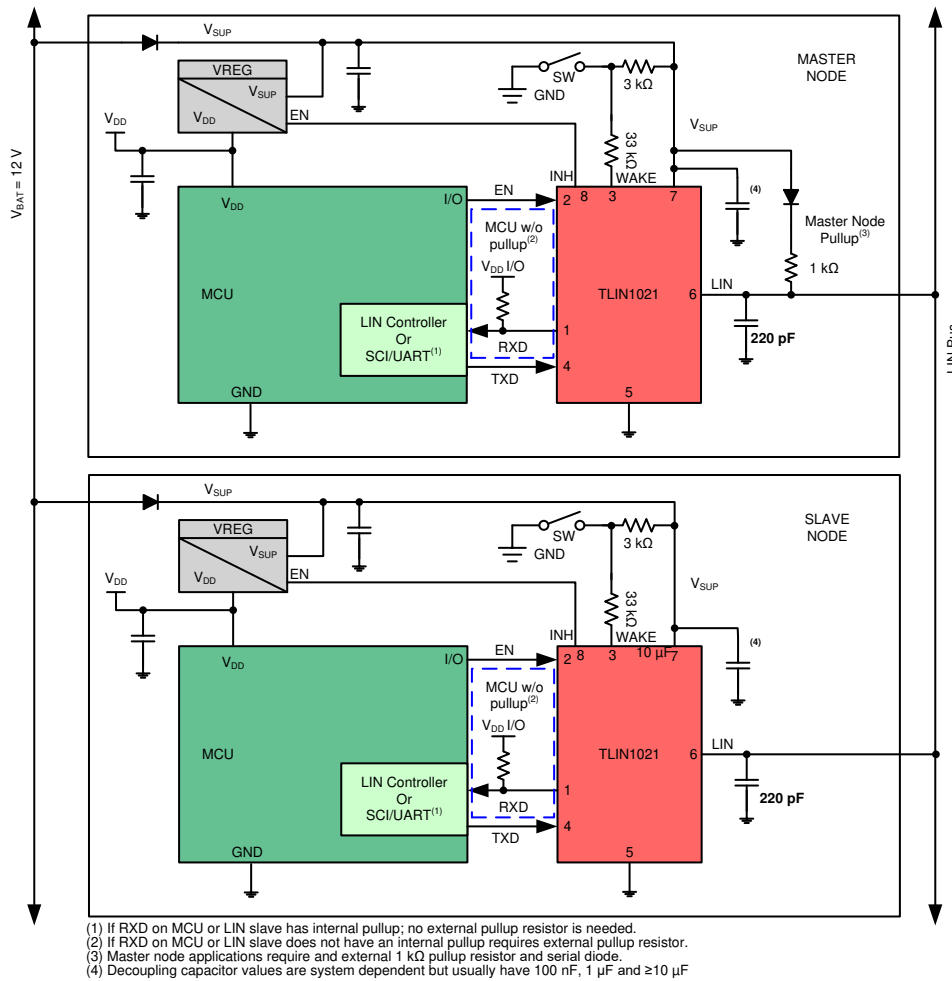

Figure 31. Typical LIN Bus
- **Pin 2 (EN):** EN is an input pin that is used to place the device in low-power sleep mode. If this feature is not used the pin should be connected to the supply voltage for the controller through a series resistor using a pull-up value between 1 kΩ and 10 kΩ. Additionally, a series resistor may be placed on the pin to limit current on the digital lines in the case of an over-voltage fault.
- **Pin 6 (LIN):** The LIN pin connects to the TLIN1021-Q1 to the LIN bus. For slave applications a 220 pF capacitor to ground is implemented. For master applications an additional series resistor and blocking diode should be placed between the LIN pin and the VSUP pin, see Figure 31.